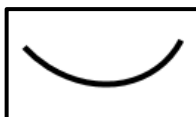

FIGURE 4.3
- 4.3 Identify the supplementary weld symbol shown in FIGURE 4.3 below.